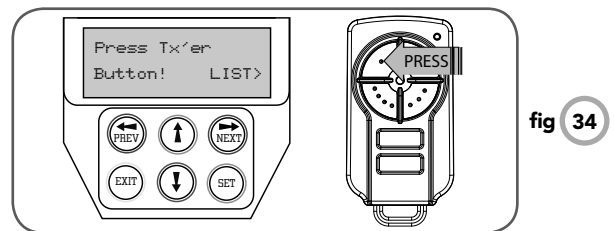

fig 34
2. Press the transmitter button you wish to use to operate the Gate Opener (e.g. button 1) (**Fig. 34**).